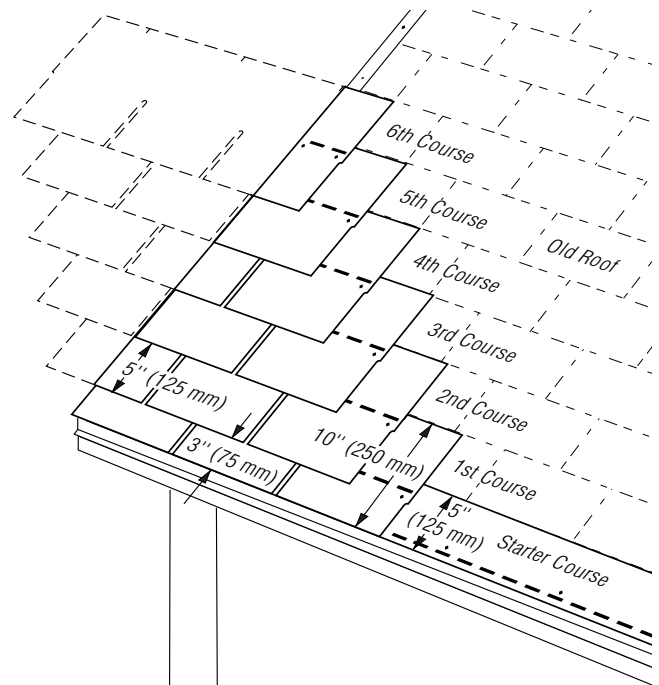

Figure 12-20: Six Off, Six Up, Nested.
2. Cut 6" off either side of the first starter shingle and install it over the first course of the old shingles, at the lower left corner (Figure 12-20).
1. The first course is made of 10" by 36" shingle strips made by cutting 2" off the bottom of the tabs of regular shingles (Figure 12-20).
- Cut 6" off the left end of a full shingle. Butt the top edge of this 12" by 30" piece of shingle up against the bottom edge of the shingle in the old fourth course. Make the left edge align with the first-course left edge (*Figure 12-20*).
- Apply this 24" piece of shingle over the second course, leaving the 5" tabs of the second course exposed. The top edge of the new shingle in this course should butt up against the bottom of the fifth course of old shingles (*Figure 12-20*).